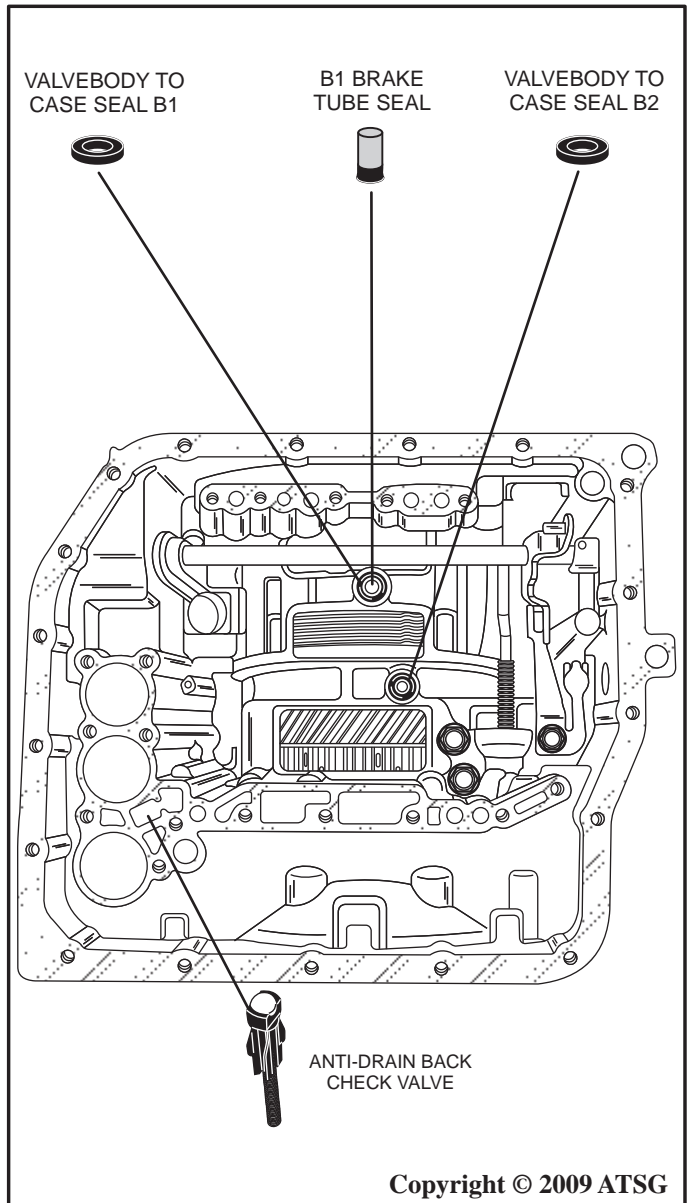

Figure 21
16. Remove the anti-drain back check valve as shown in Figure 21.
17. Remove the B1 and B2 valvebody to case seals as shown in Figure 21.
18. Remove the B1 tube seal as shown in Figure 21.